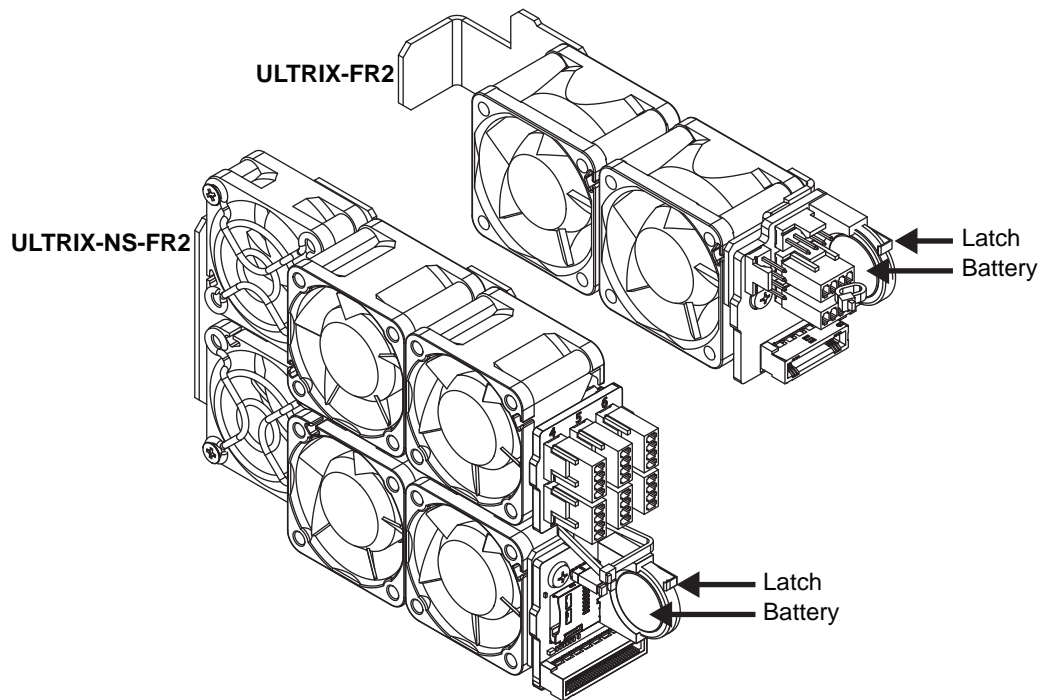

Figure 23.5 Battery Location inside the Cooling Fan Module — ULTRIX-FR2 and ULTRIX-NS-FR2
1. Locate and note the orientation of the failed battery inside the Cooling Fan Module. (**Figure 23.5**)